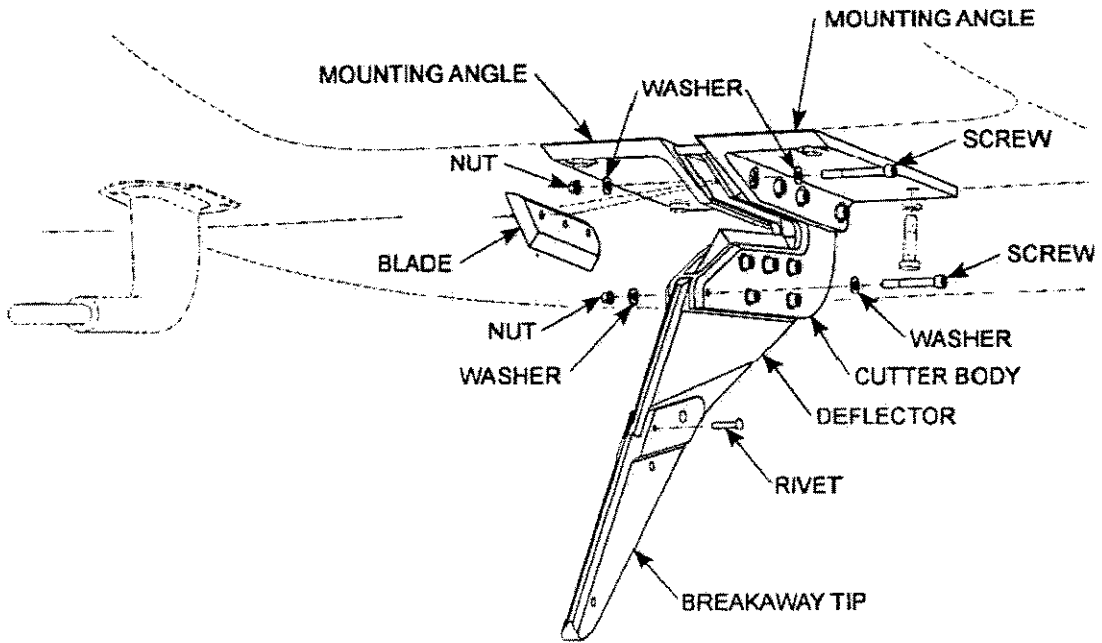

Figure 2-2 Lower Cutter Installation
2.3.2.3 Breakaway Tip (Lower Cutter, Refer to Figure 2-2)
2.3.4.1 Breakaway Tip (Lower Cutter, Refer to Figure 2-2.)